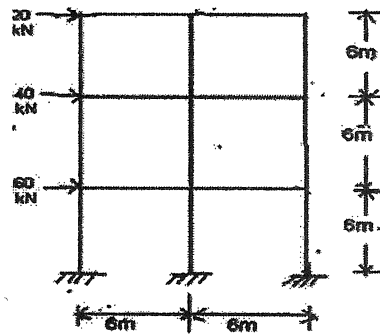

Fig.6
8. Analyze the following frame shown in figure 6 by portal method of analysis. Draw the bending moment diagram.